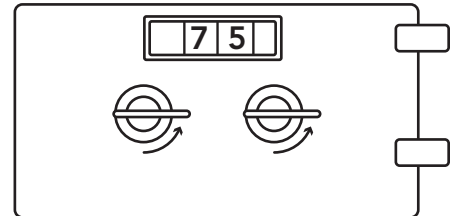

FIG. 5
6. Turn guard key back toward the bolt as far as it will go. (Same direction that you came from originally. It will go only one way.) (Figure 5)